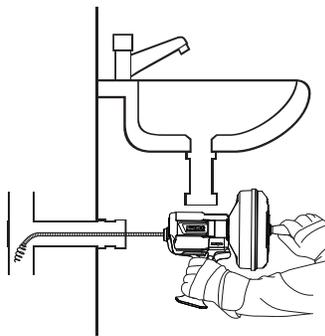

Figure 3
- Unscrew cleanout plug or remove trap (Figure 3).